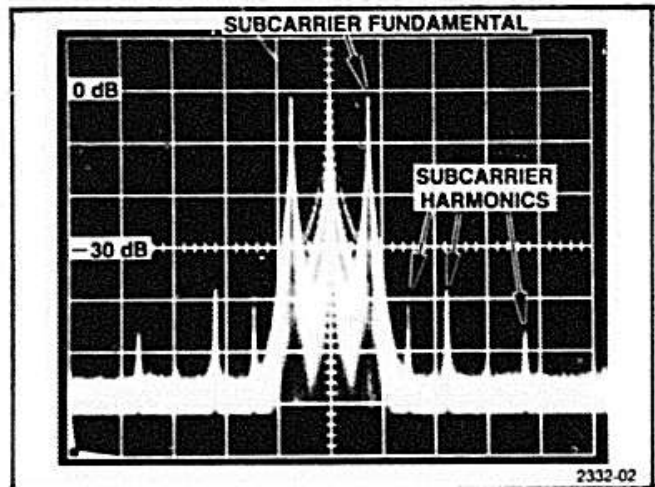

Fig. 2-4. Chrominance Bandpass Filter spectrum analyzer display.
f. OPTIONAL CHECK—using a spectrum analyzer, check that the third (and higher) harmonics are 30 dB or greater down from the chrominance subcarrier fundamental, as illustrated in Fig. 2-4.